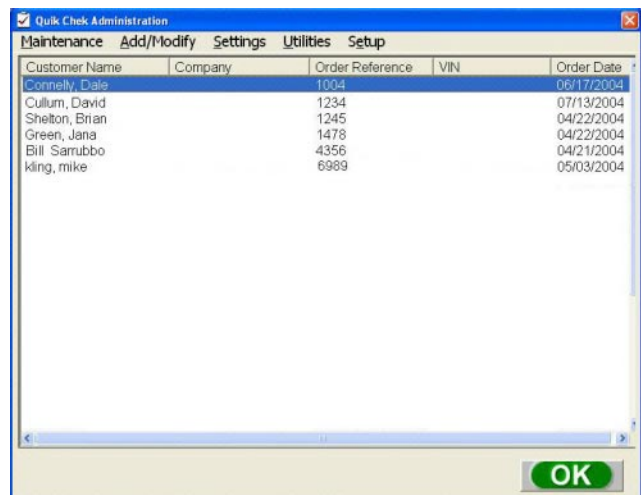

Figure 25
- Customize the Quik Chek™ measuring system for the body shop information, language desired to use, communication port and the user definable tolerance setting. See Figure 25.